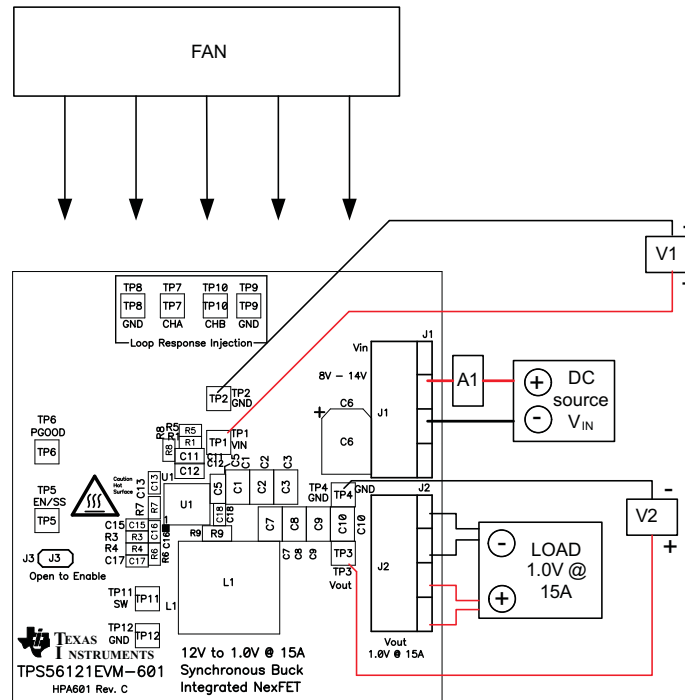

Figure 2. TPS56121EVM-601 Recommended Test Setup
Figure 2 is the recommended test setup to evaluate the TPS56121EVM-601.
2. Prior to connecting the DC input source, VIN, it is advisable to limit the source current from VIN to 3.0 A maximum. Make sure VIN is initially set to 0 V and connected as shown in Figure 2.
3. Connect VIN to J1 as shown in Figure 2.
4. Connect ammeter A1 between VIN and J1 as shown in Figure 2.
5. Connect voltmeter V1 to TP1 and TP2 as shown in Figure 2.
6. Connect voltmeter V2 to TP3 and TP4 as shown in Figure 2.
7. Place the fan as shown in Figure 2 and turn it on, ensuring that the air blows directly across the evaluation module.
1. Set up the EVM as described in Section 5.3 and Figure 2.